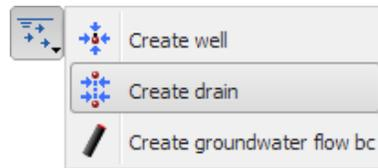

Figure 109: Create Drain option
1. Click the **Create hydraulic conditions** button in the side toolbar and select the **Create drain** option in the appearing menu which is shown in Figure 109 (on page 131).